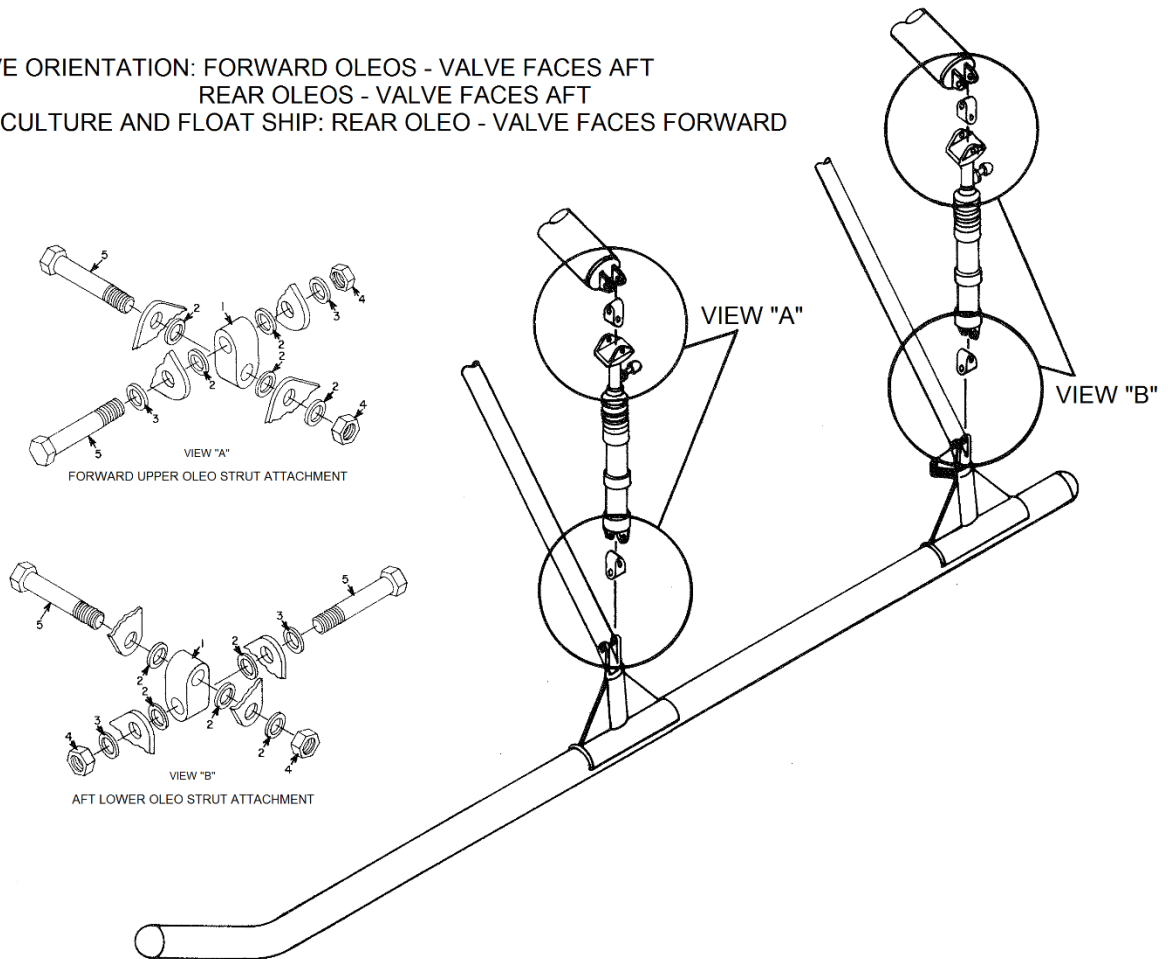

Figure 8-11. Oleo Strut Installation
1. Oleo Strut Removal (See Figure 8-11)
5. Oleo Strut – Installation (see Figure 8-11)
- (b) Place a light washer (2) on each side of universal link (1) and install between mount ears on oleo strut (2 places). Secure in place using bolt (5), light washers (3) and nut (4) (Figure 8-11). Note there is no washer under the head of the top inboard attachment bolt (P/N 28-17135-11).
- (c) Place a light washer (2) on each side of universal link (1) and install the oleo assembly between mount ears on cross tube. Secure in place using bolt (5), heavy washers (3) and nut (4). Torque as follows: